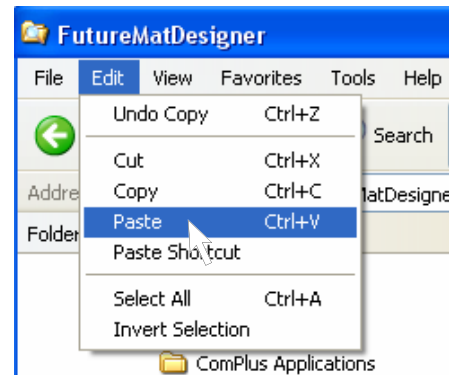
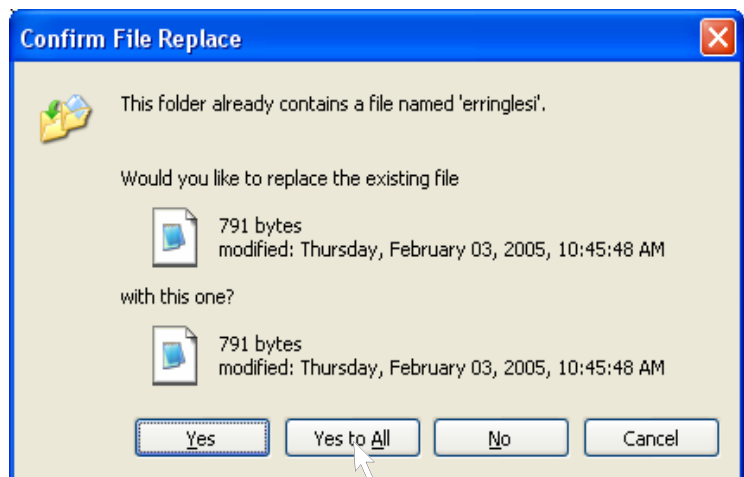

Figure 2.4
Figure 2.5
- Click “Edit,” “Paste” on the Menu Bar (Figure 2.4). This will paste the new English files over the existing ones. You will see the prompt: “This folder already contains a file named...” Click the “Yes to All” button to overwrite all of the translation files at once (Figure 2.5).